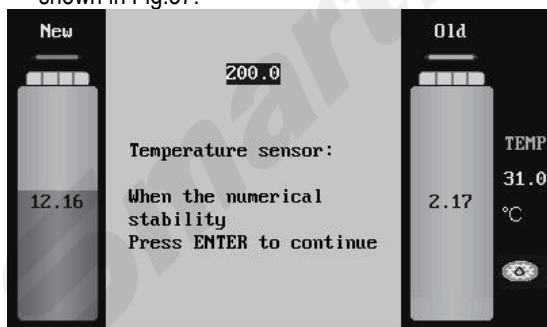

Fig.37
- 9) According to the prompts on the interface, enter the current temperature value (Unit: °C), and then press ENTER key to save the data. The interface is as shown in Fig.37.